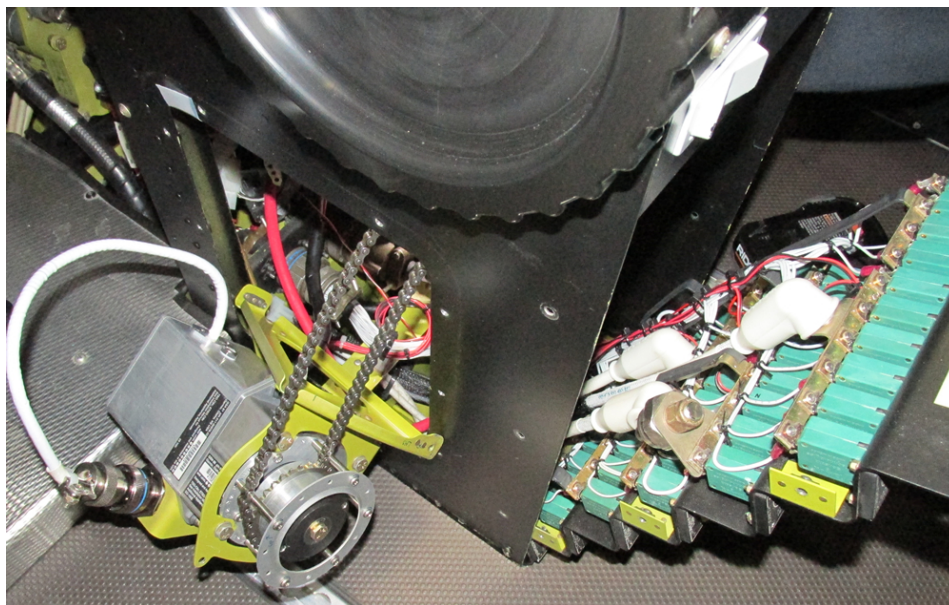

Figure 5-2: Garmin Autopilot Equipped Airplane, Pitch Trim Servo
4. On Garmin autopilot equipped airplanes, the pitch trim servo will have to be moved in accordance with the *KODIAK® 100 Airplane Maintenance Manual*, Chapter 27 to permit access to the fuse cover. See **Figure 5-2**.